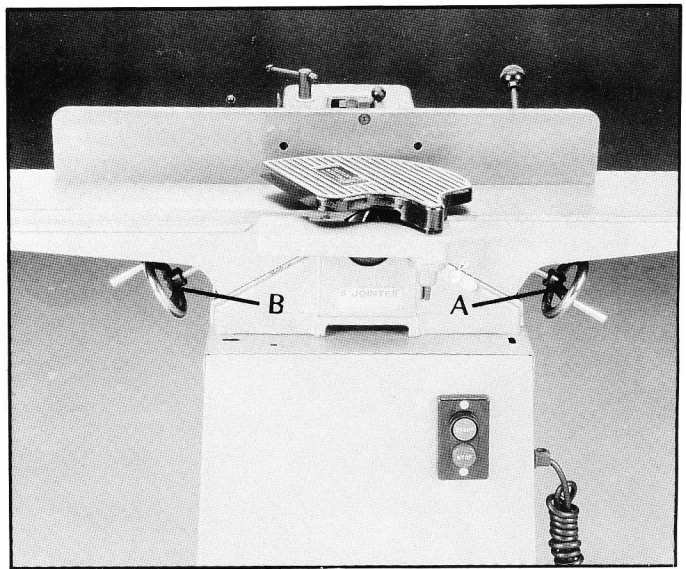

Fig.8
To raise or lower the front table, and turn handwheel Fig. 8 (A).
To raise or lower the rear table, and turn handwheel Fig. 8 (B).